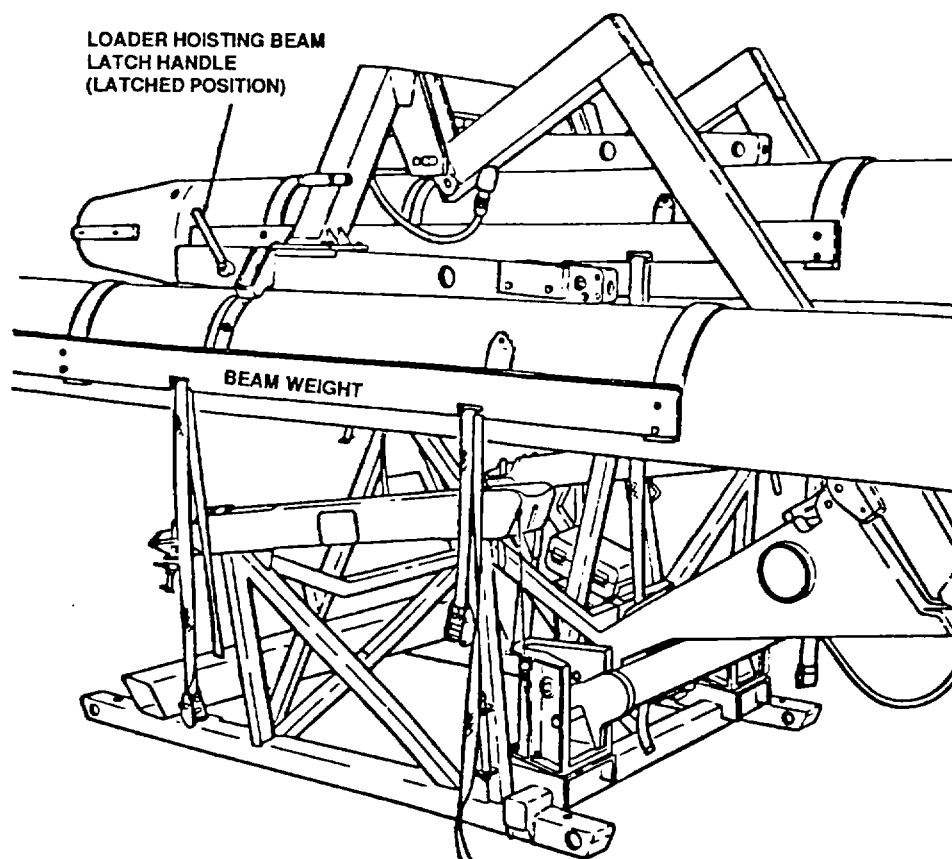
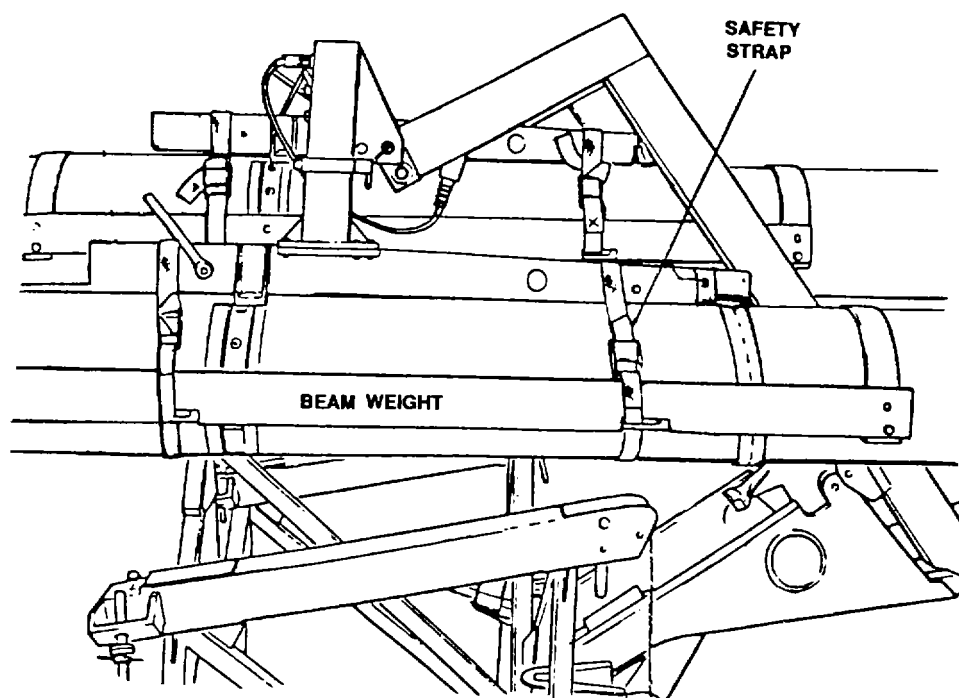

Figure 6-18. Loader Latched to Training Missiles.
Figure 6-19. All Safety Straps Loosely Secured in Place.
(4) Latch hoisting beams to training missiles (figure 6-18) and attach the loader missile safety straps (figure 6-19). Use whisker bar.
(5) Release missiles from pallet.
(6) Elevate superstructure to a minimum height, not more than 6 inches, sufficient to permit buckling of safety straps, attached to weight support harness, around the superstructure hoisting beams (figure 6-19). Do not tighten.